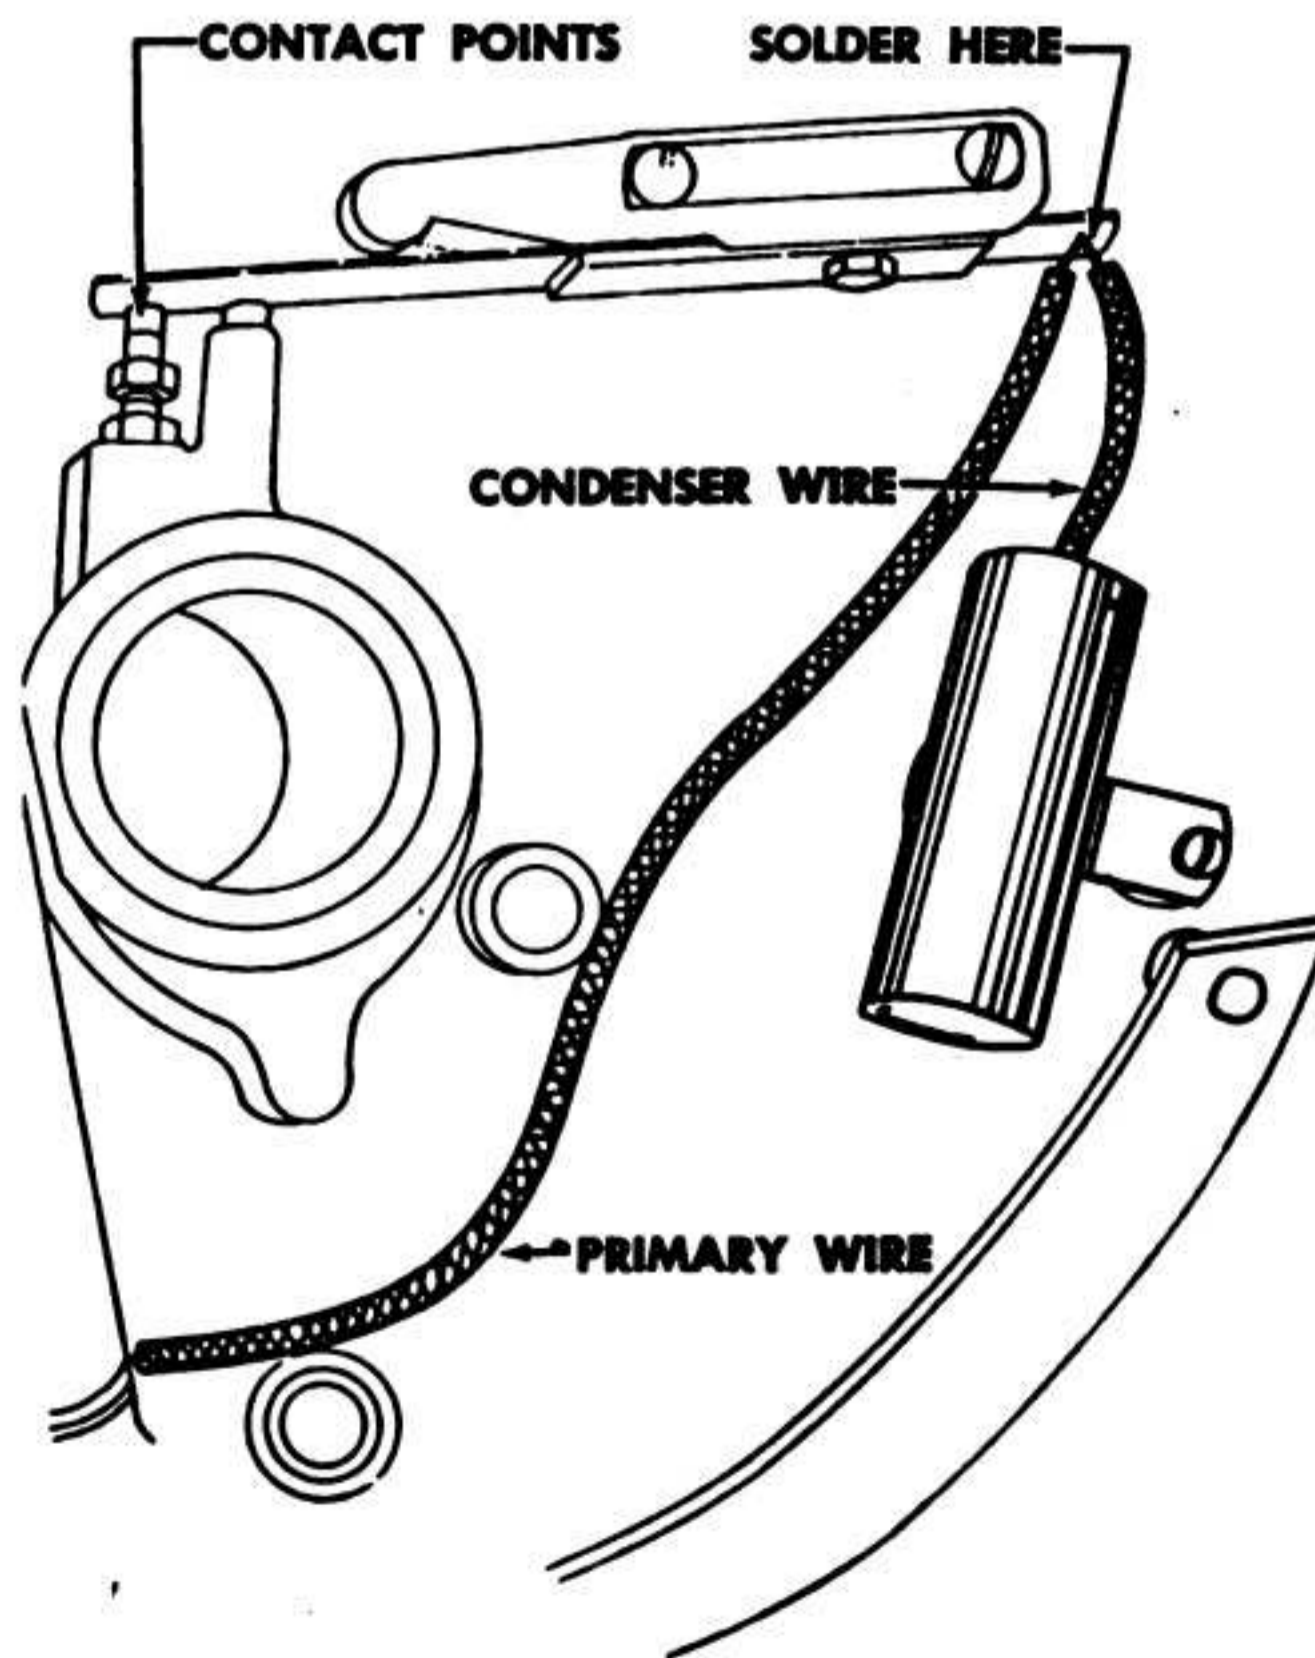

Figure 51—Condenser Installation
d. Condenser. A leaky or weak condenser may cause hard starting, sputtering, or misfiring under load. If inspection of fuel line, carburetor, spark plug, cable, and magneto contact points does not reveal trouble, replace condenser. Solder the end of the condenser wire and primary wire to the contact spring, as shown in figure 51.
(1) Removal.